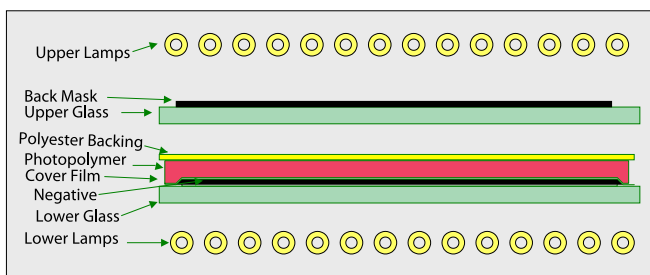

Figure 2
5. Then a moving carriage travels over the negative and dispenses a metered cast of photopolymer. Simultaneously, a polyester plate backing dispenses from the carriage laminator onto the cast surface (Figure 2).
mitting through the mask film, which prevents any floor curing on the plate (Figure 2).
Thin opaque or blueline paper is the preferred masking material since it can be easily cut and has minimum interference with the upper vacuum during plate imaging. The blueline paper image can easily be outlined and cut from the original film image after a short flash exposure. The paper mask will need to be directly traced from the film (Figure 2).